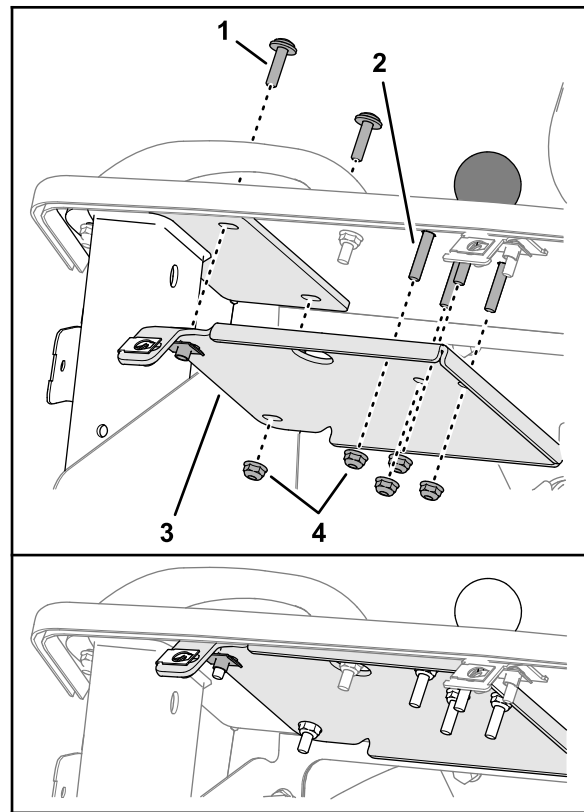

Figure 136
2. Loosely assemble the stiffener plate to the 4 flange-head bolts (1/4 x 1-1/2 inch) with 4 locknuts (1/4 inch) as shown in Figure 136.